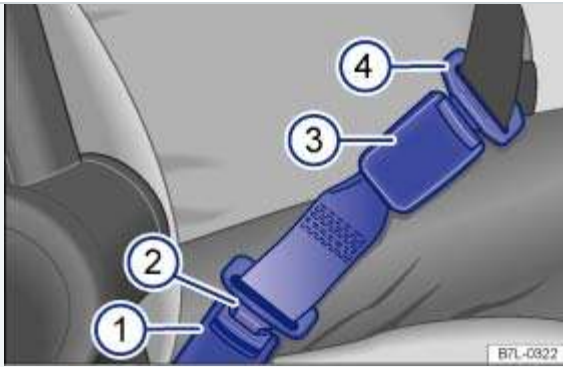

Fig. 67 A safety belt extender properly attached to the factory-installed safety belt.
Key to ⇒ Fig. 67 :
- Insert the buckle tongue on the safety belt extender ⇒ *Fig. 67②* into the vehicle belt buckle for the seat where the safety belt extender is being used ⇒ *Fig. 67①*.